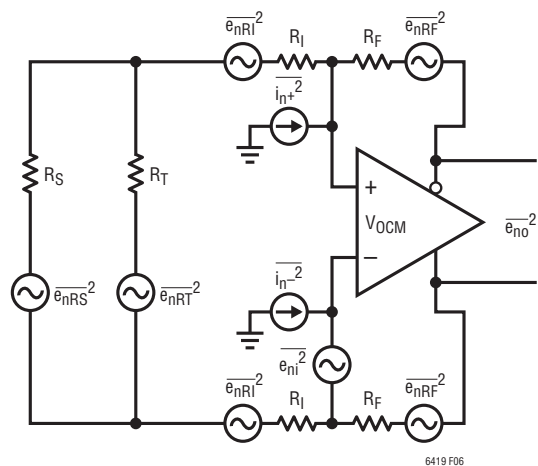

Figure 6. A More General Noise Model Including Source and Termination Resistors
To calculate noise figure (NF), a source resistance and the noise it generates should also come into consideration. Figure 6 shows a noise model for the amplifier which includes the source resistance (R_S). To generalize the calculation, a termination resistor (R_T) is included and its noise contribution is taken into account.